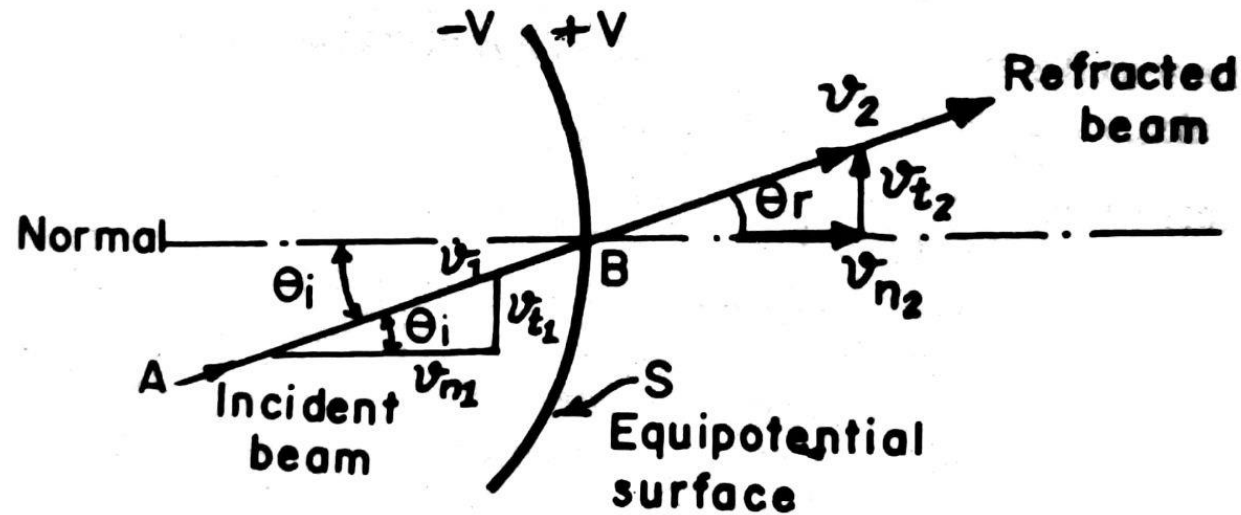

Figure 6
- **Refraction of Electron Beam:** Consider the region on two sides of an equipotential surface S , as shown in figure 6.